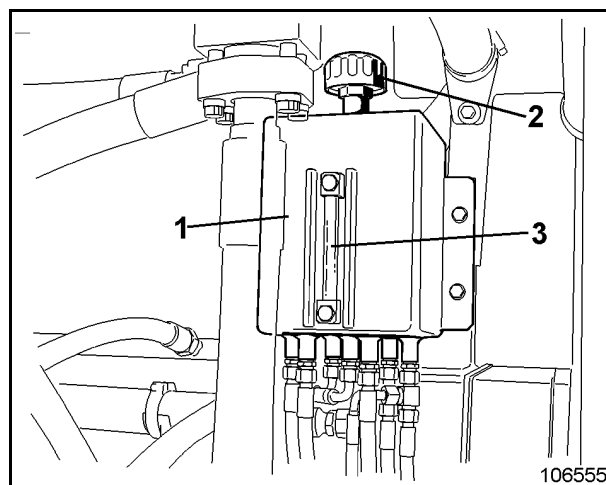

Fig. 3-76:
Oil level in the pre-chambers is visible in the inspection glass (3, Fig. 3-76:) of the expansion reservoir (1).